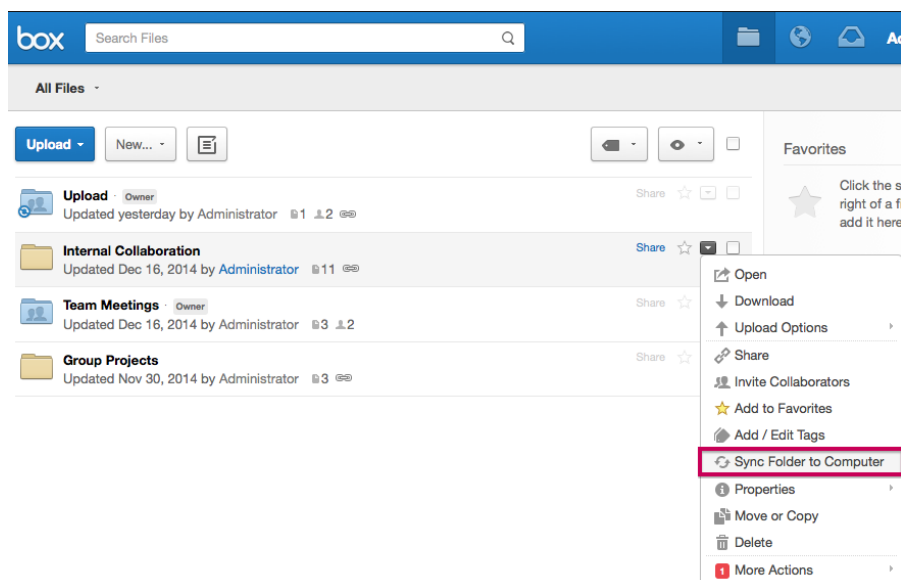

Figure 11: How to sync folders to computer
- 7.2.2.2.2. Select "Sync Folder to Computer" (see Figure 11).